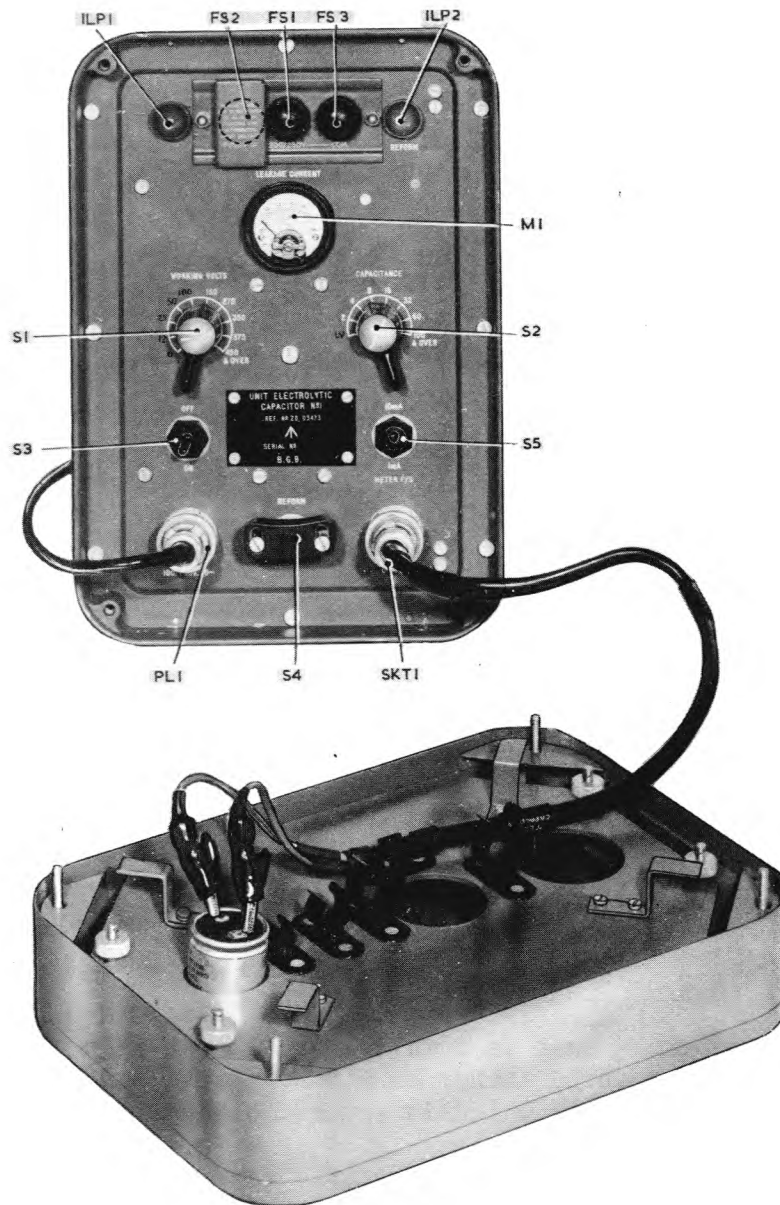

Fig.1. Reforming unit, front view with lid removed
4. Figure 1 shows the complete unit ready for use, the lid assembly being shown in the foreground. As described in Chap 1, the lid assembly comprises the lid itself and a "test-plate" which provides stowage for the mains